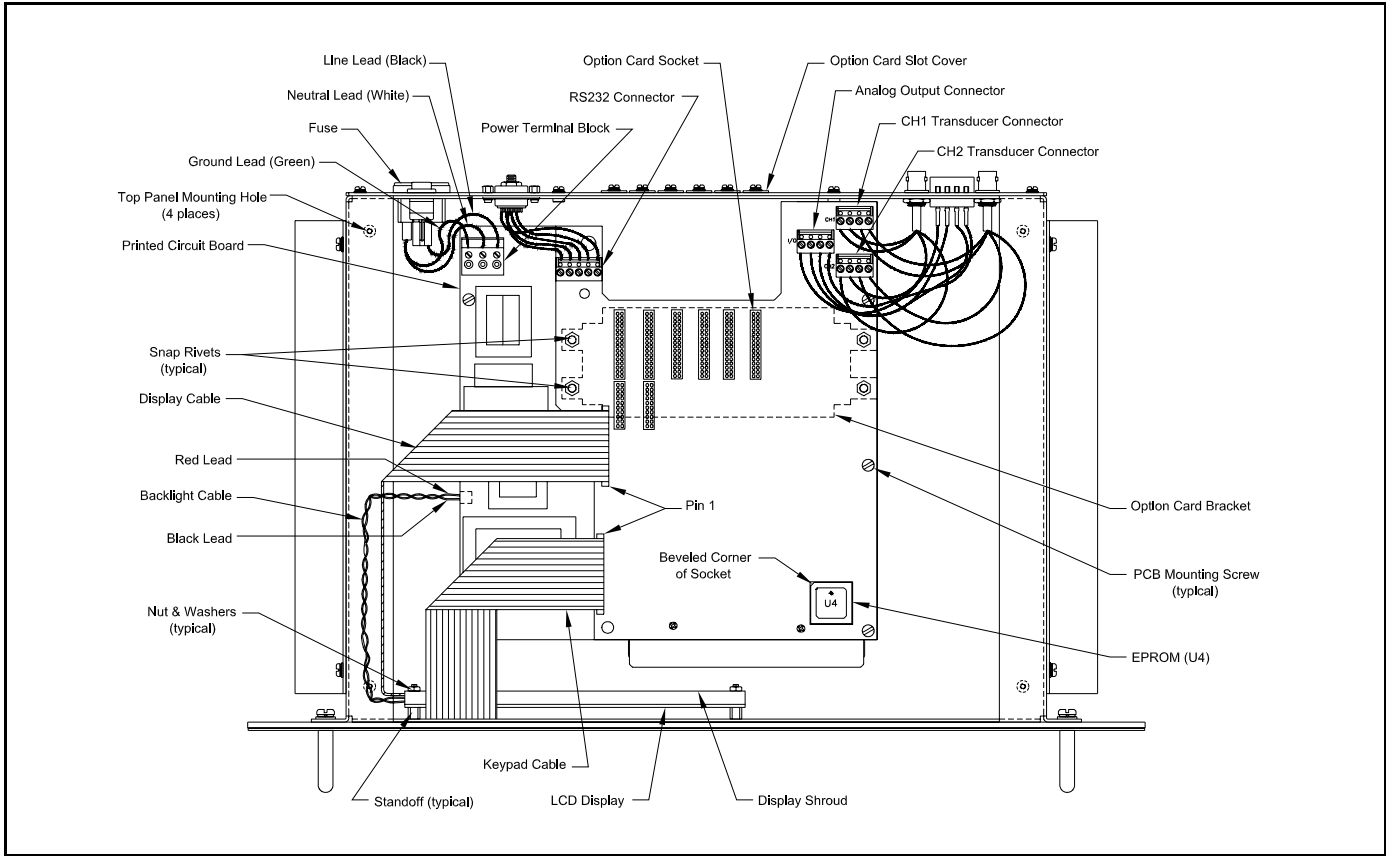

Figure B-2: Model DF868 Rack Mount Console Assembly (ref. dwg # 705-849)
EPROM replacement may be required to replace a defective chip or to upgrade to a newer software version. To replace the EPROM, refer to Figure B-2 on page B-11 and complete the following steps:
To replace the LCD display, refer to Figure B-2 on page B-11 and complete the following steps:
Refer to Figure B-2 on page B-11 and complete the following steps:
5. Install the RS232, ANALOG OUT and TRANSDUCER connectors onto the printed circuit board at the locations indicated in Figure B-2 on page B-11. Make sure the marked pin #1 sides of the connectors face the right side (keypad side) of the enclosure.